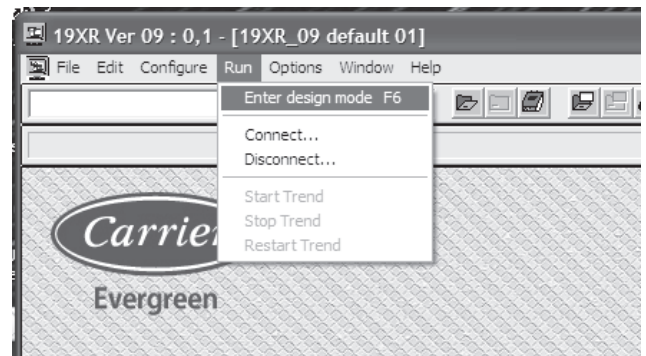

Fig. 28 — Enter Design Mode
40. Under the “Run” tab at the top of the screen, select the “Enter design mode.” Answer “Yes” to open the displayed screen for design (Fig. 28).